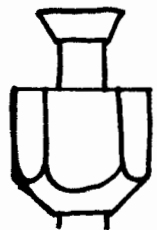

FIG 16 HEATER
2.16 Heater: See separate sheet, fig. 16.